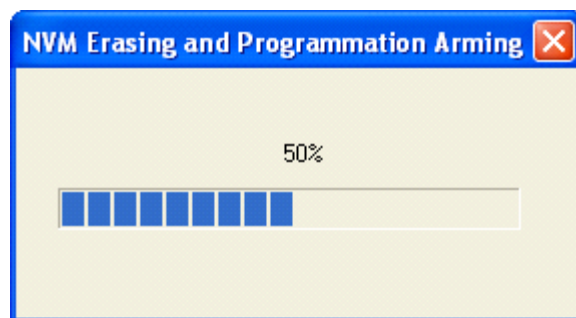

Figure A-6. Erasing and Programming window
3. The pop-up in Figure A-6 appears to erase and program the built image to JM128 Flash